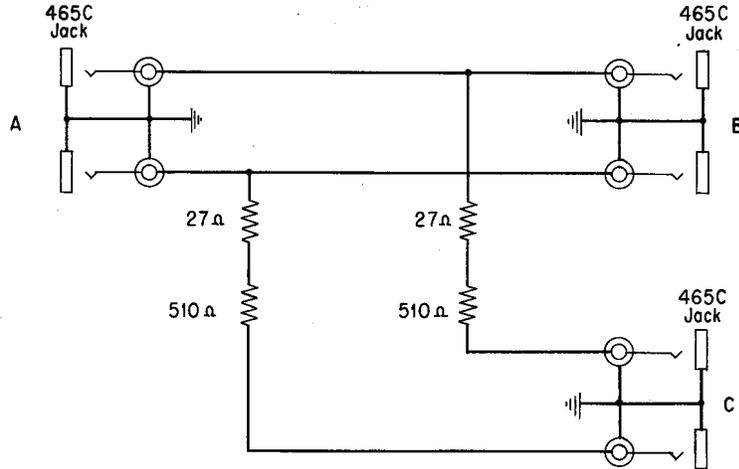
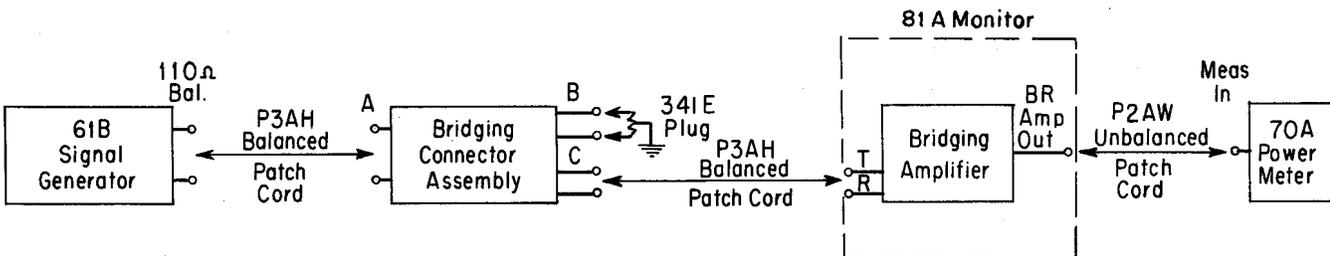

Fig. 1 - Bridging Connector Assembly
Fig. 2 - Testing Arrangement for Maximum Gain Measurement of Bridging Amplifier
Note: The bridging connector assembly can be constructed using three 465C jacks on a 78C jack mounting. Refer to Fig. 1.
2.02 The bridging connector assembly shown in Fig. 1 will simulate these conditions, and can be constructed locally by mounting three 465C jacks, two 27-ohm (Type 106A) resistors, two 510-ohm (Type 106A) resistors on a 78C jack mounting and wire as shown.
- 1 - Bridging Connector Assembly per Fig. 1
- (1) Set the 61B signal generator to 110-OHM BAL SINE WAVE OUTPUT, -7 db output level and 100-kilocycle frequency.
- (2) Set the 70A power meter to 75-OHM UNBAL input and calibrate for 1V P/P.
(3) Connect the 61B signal generator, bridging connector assembly, bridging amplifier and 70A power meter as shown in Fig. 2.
(4) Set the GAIN potentiometer of the bridging amplifier to maximum (fully clockwise).
(5) Adjust the 61B signal generator output level to bring the reading on the 70A power meter as near to 0 db as possible. The voltage gain of the bridging amplifier is the difference between the 61B signal generator ATTENUATOR setting and the reading on the 70A power meter.
2.06 With the equipment connected as in Fig. 2:
- (1) The equipment should remain connected as in Fig. 2, except that the 510-ohm series resistors in the bridging connector assembly (Fig. 1) shall be strapped out. The setting of the 61B signal generator should be as in Paragraph 2.06(2).
- (2) Adjust dial 2 of the 70A power meter to obtain a reading of exactly zero.
- (3) With the power to the bridging amplifier OFF disconnect capacitors C7 and C8 from the cathode of V4 (pin 5). Restore power to the amplifier and allow a five-minute warmup period.
- (4) Maintaining the same 61B signal generator output level as in Paragraph 2.07(1), adjust the L1 retard coil until the 4-megacycle transmission is the same as that at 100 kilocycles.
- (5) Restore the 510-ohm series resistors in the bridging connector assembly.
- (6) With the power to the bridging amplifier OFF reconnect C7 and C8 to the cathode of V4. Restore power to the amplifier and allow a five-minute warmup period.
- (7) Maintaining the same 61B signal generator output level, adjust C7 until the 4-megacycle transmission is the same as that at 100 kilocycles.
- (8) When this has been completed repeat items (4) and (5) in Paragraph 2.06.